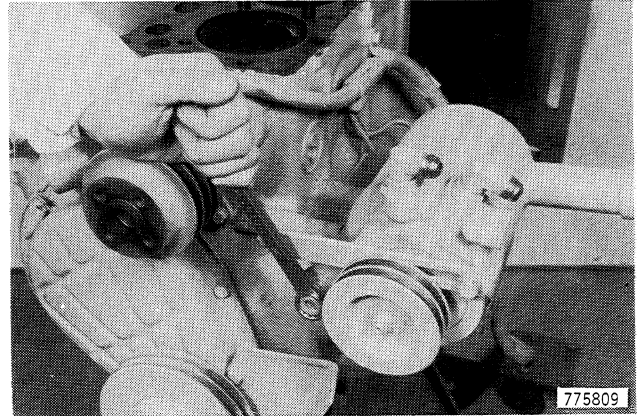

Figure 63
7. Remove the nut, lock washer and flat washer from the stud that mounts the steering pump, Figure 63. Remove the steering pump.